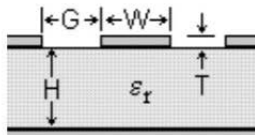

Figure 7.4. RF Trace Design Example
- For reference, Figure 7.4 RF Trace Design Example on page 33 shows a set of parameters for a 50 Ω trace. Trace impedance should always be matched to the particular stack-up used on the host board.